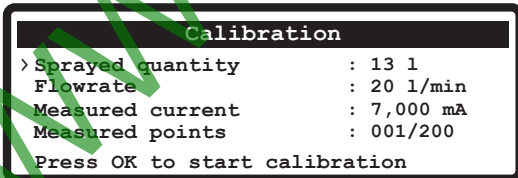

Fig. 30
- 7** Immediately afterwards the computer passes to the calibration start screen (Fig. 30): the message **Press OK to start calibration** blinks on the display.